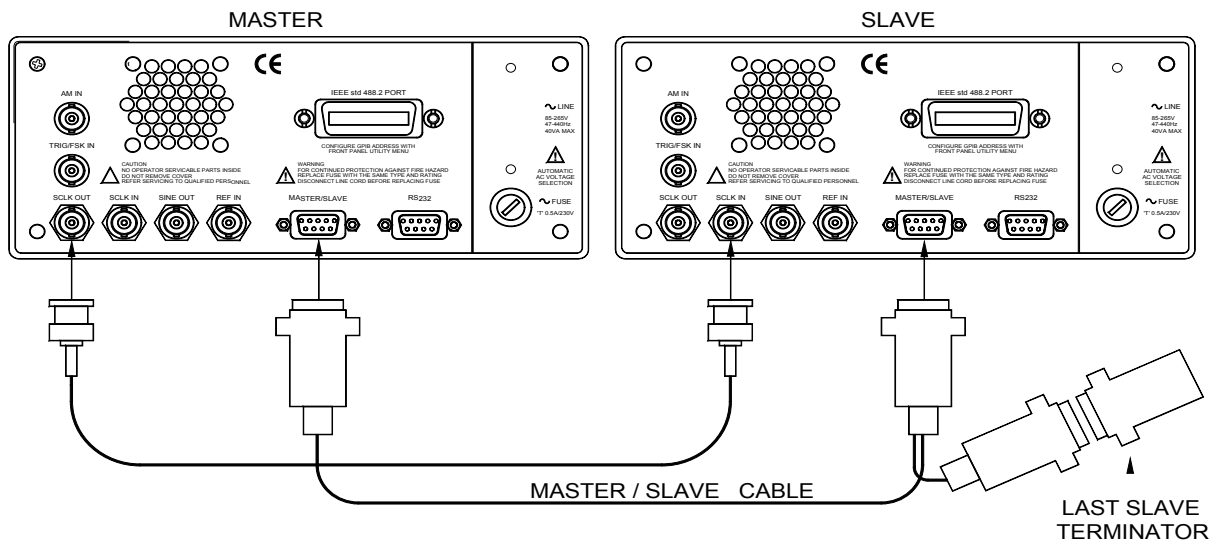

Figure 3-29, Wiring Diagram Master to Slave
Connecting multiple instruments in master/slave configuration is extremely easy. All you need is two types of cables, the first being a standard BNC to BNC coax cable to feed the sample clock output and a 9-pin to 9-pin cable to feed the master-to-slave, or slave-to-slave controls. The master/slave cable is supplied with your instrument however, the BNC cable you can get from any store. Figure 3-29 shows the connection between master and slave instruments. Additional slave units can be daisy-chained in a similar way. What you have to remember is that SCLK OUT feeds an adjacent SCLK IN. Also, always have the last slave unit in the chain terminated with the special 9-pin terminator.
1. Connect your instruments as shown in Figure 3-29. Make sure you designate the first instrument in the chain as master. Also make sure the last slave is terminated with the 9-pin terminator.